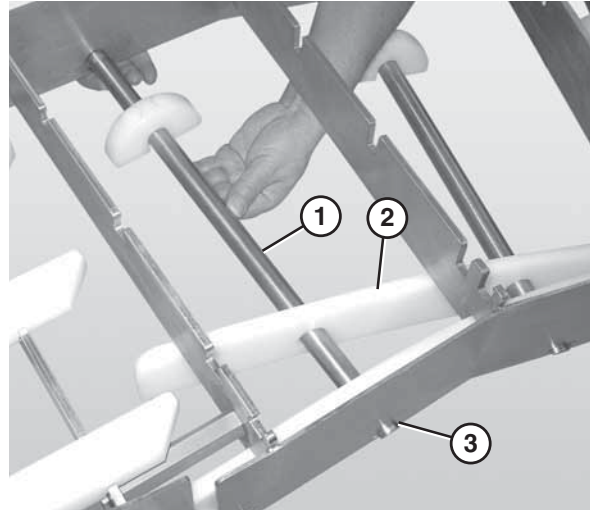

Figure 39
3. Slide the long end of the curve return shaft (**Figure 39, item 1**) through the center hole in the return bottom wear strip (**Figure 39, item 2**).
5. Push up on the return shaft and slide the notched end of the shaft through the small slot on the opposite side of the frame (**Figure 39, item 3**).